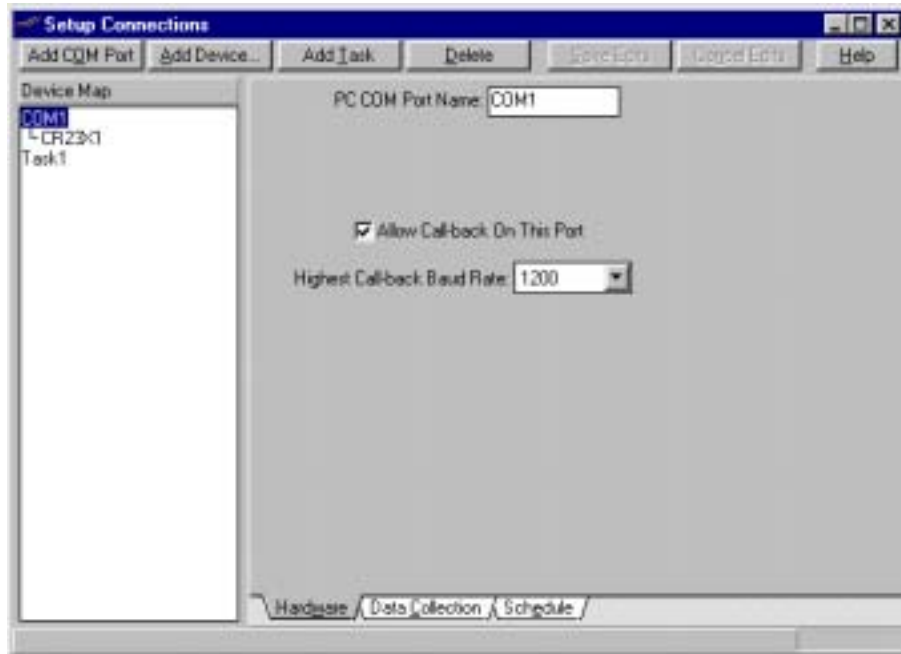

FIGURE G.2-1. Configuring COM Port for Callback
- a) As shown in Figure G.2-1 go to *PC208W | Setup | COM(Port#) | Hardware* and check the box labeled "Allow Call-back On this Port." Also, set the Callback baud rate equal to that used in step 1 above. If in doubt, use a baud rate of 1200. Setting the port to allow callback may cause PC208W storage module support to malfunction.